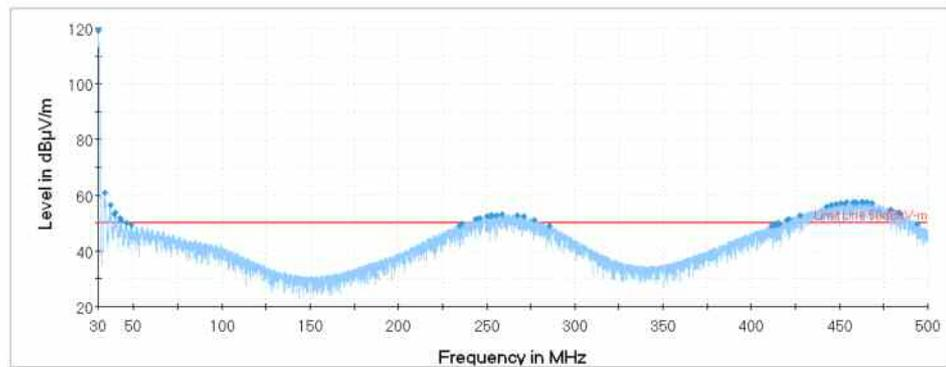

Figure 18: Peak Search with Maxima Limitation, Maximum Number of Results = 50
- Figure 18: Maxima Limitation: Maximum Number of Results = 50,